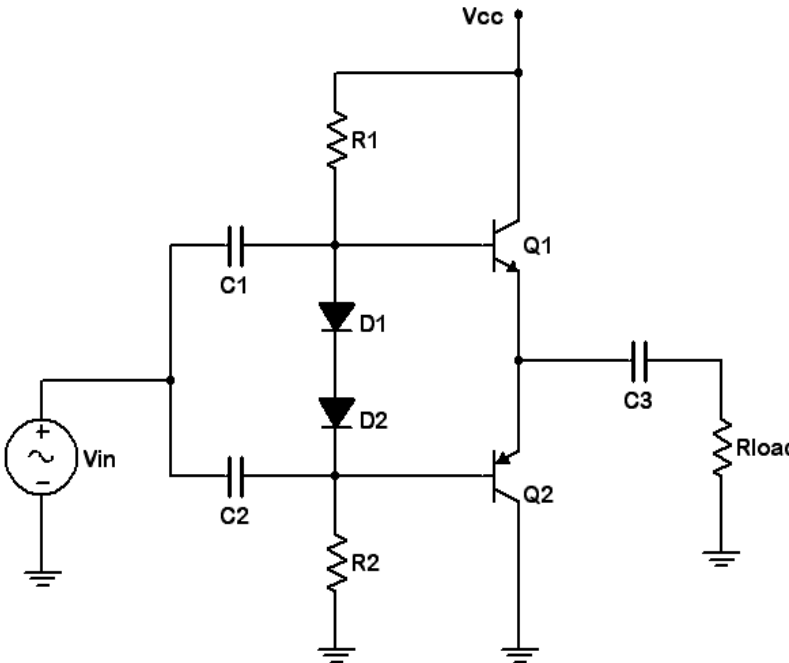
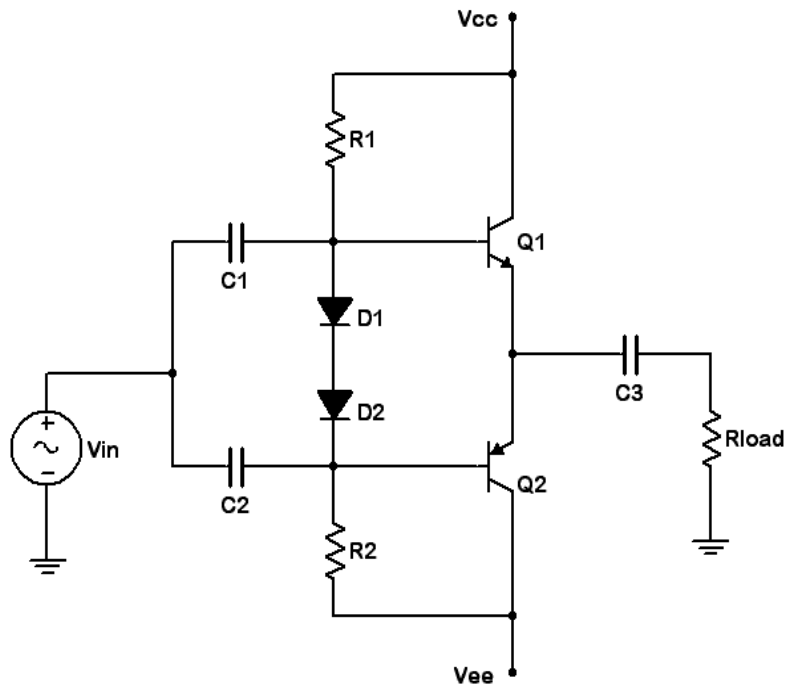

Figure 13.2
Figure 13.3
5. Replace R3 and R4 with switching diodes, as shown in Figure 13.2. Repeat steps 2 through 4 using this circuit and Table 13.2. Overall, the superior matching of the diodes to the transistors should result in decreased notch distortion.
6. Add the negative power supply so that the circuit now appears as Figure 13.3. Set the supplies to +/- 6 volts DC. This should produce similar bias and amplification results to the single 12 volt supply circuit of Figure 13.2. Although the output coupling capacitor is no longer needed (one advantage of the dual supply topology), leave it in for safety sake.